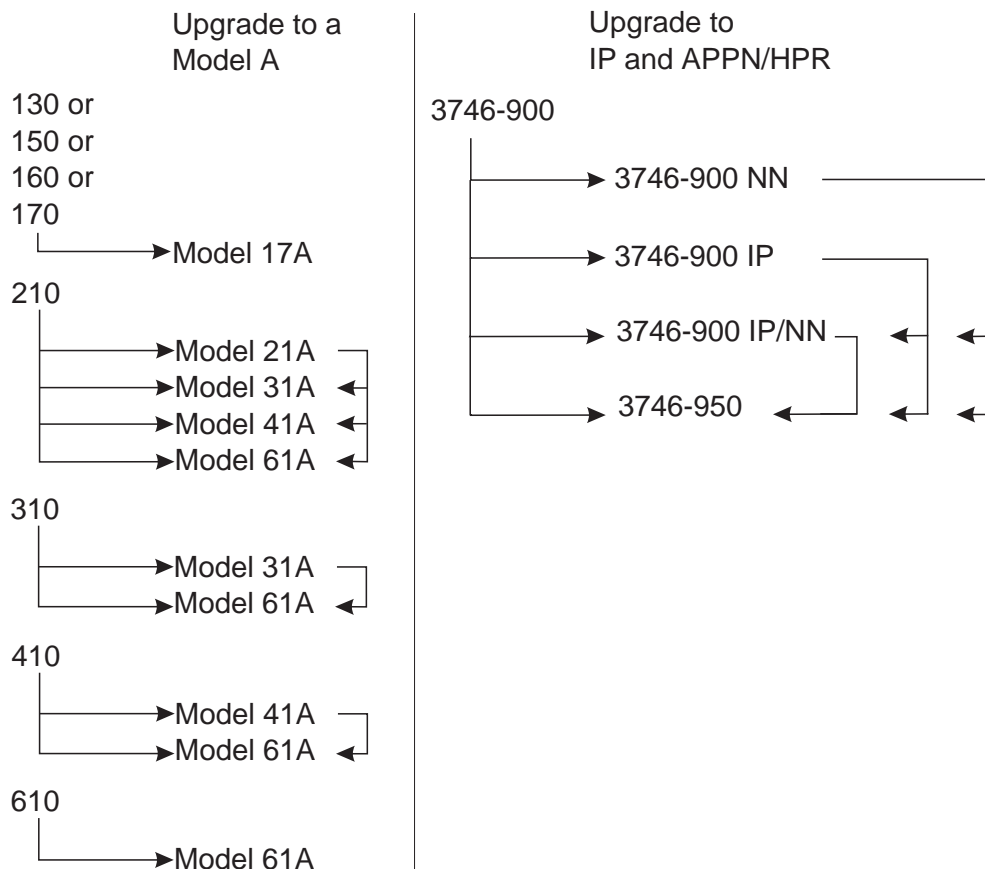

Figure B-5. Upgrading a 3745 or 3746
- 3745 (see Figure B-5).
- 3746-900 to a 3746-950 (see Figure B-5).